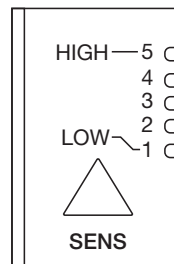

Fig. 12
- In order to see the current sensitivity setting, quickly press and release the SENS + or – button. The current sensitivity number will blink. To change sensitivity, press the + or – button repeatedly to move the flashing LED up or down to the desired sensitivity (Fig. 12).